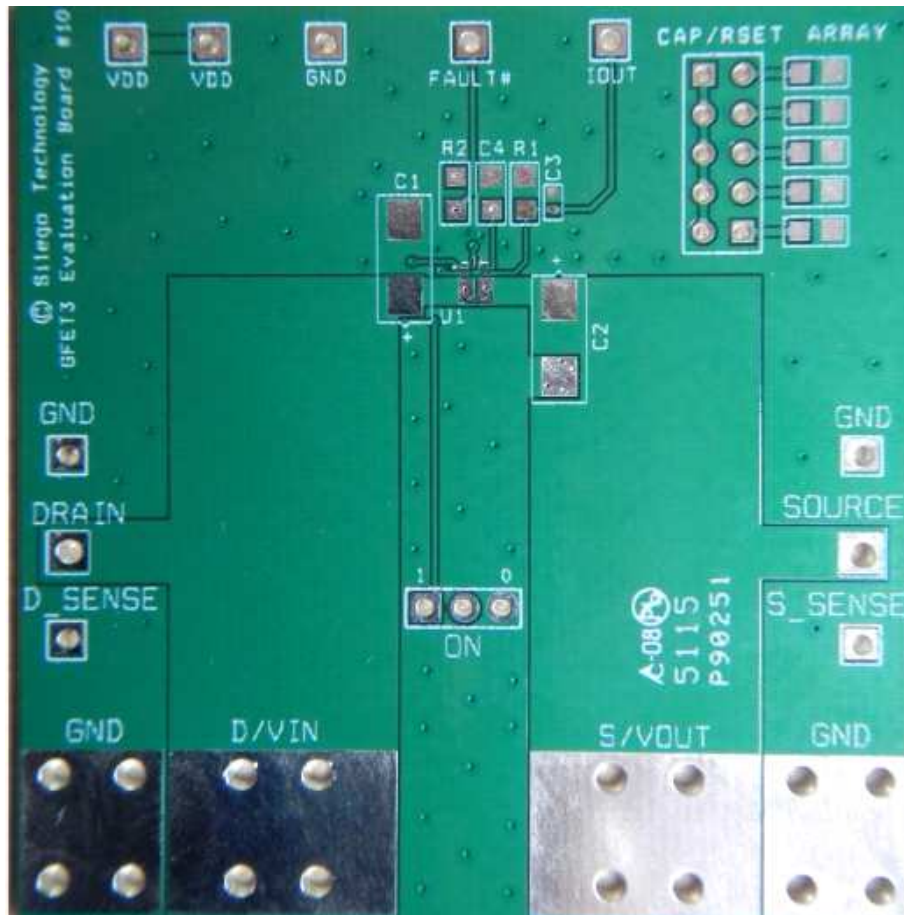

Figure 4. SLG59M1709V Evaluation Board.
2. Since the VIN and VOUT pins dissipate most of the heat generated during high-load current operation, it is highly recommended to make power traces as short, direct, and wide as possible. A good practice is to make power traces with an absolute minimum widths of 15 mils (0.381 mm) per Ampere. A representative layout, shown in Figure 4, illustrates proper techniques for heat to transfer as efficiently as possible out of the device;
A GreenFET Evaluation Board for SLG59M1709V is designed according to the statements above and is illustrated on Figure 4. Please note that evaluation board has D_Sense and S_Sense pads. They cannot carry high currents and dedicated only for $R_{DS(ON)}$ evaluation.